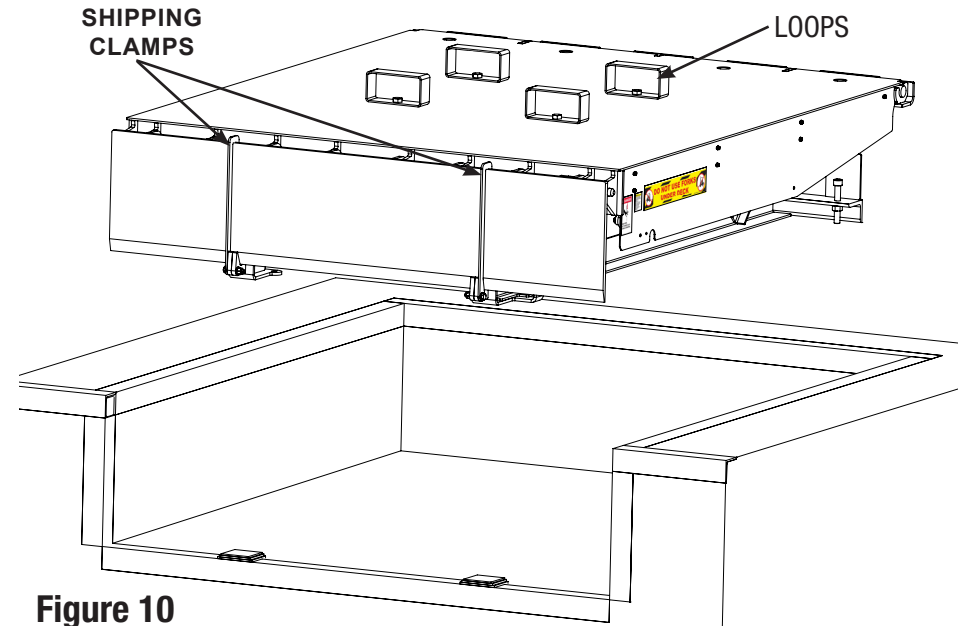

Figure 10
2. Using properly rated lifting equipment, lift the leveler using the deck transportation loops and lower it into the pit. Guide the leveler towards towards the rear of the pit, leaving about a 3ft gap to prepare the motor wiring harness as shown in **Figure 10**.